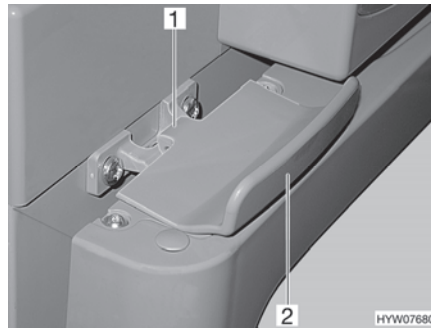

Fig. 124 Lock of refrigerator door, closed (Thetford)
- Open the refrigerator door at the handle (Fig. 124,2). The lock (Fig. 124,1) is released automatically.